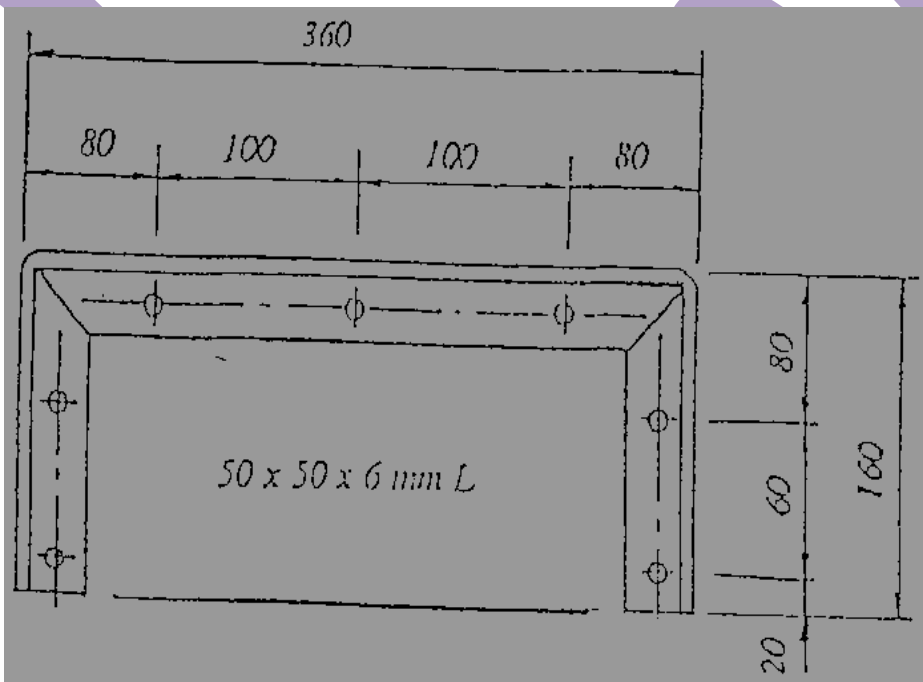

FIGURE 2
- 2.2 FIGURE 2, DIAGRAM SHEET A (attached), shows a top view of an angle-iron frame.
- Make a detailed drawing of the length of the angle iron before it is bent to the frame. Indicate the allowances for the material thickness to be considered. (5)